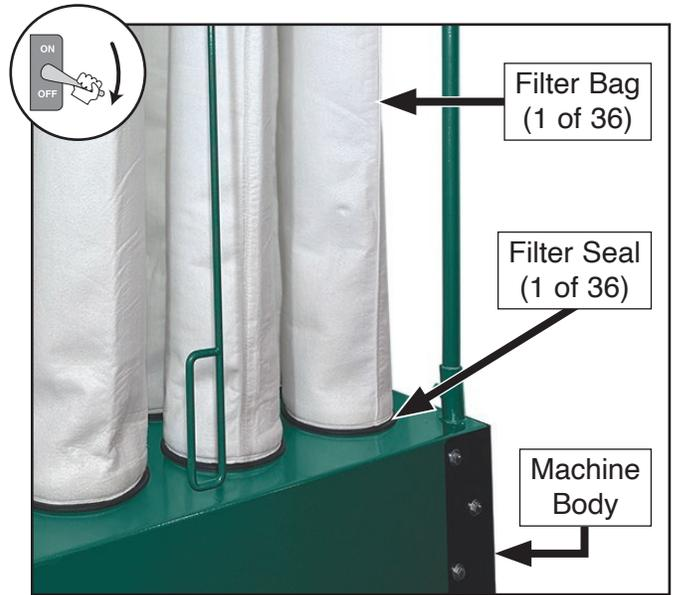

Figure 103. Location of filter seals.
2. Disconnect filter seals (see **Figure 103**) from machine body.
6. Secure rubber seal of each filter bag to machine body. Ensure seal is seated properly in hole (see **Figure 103**).